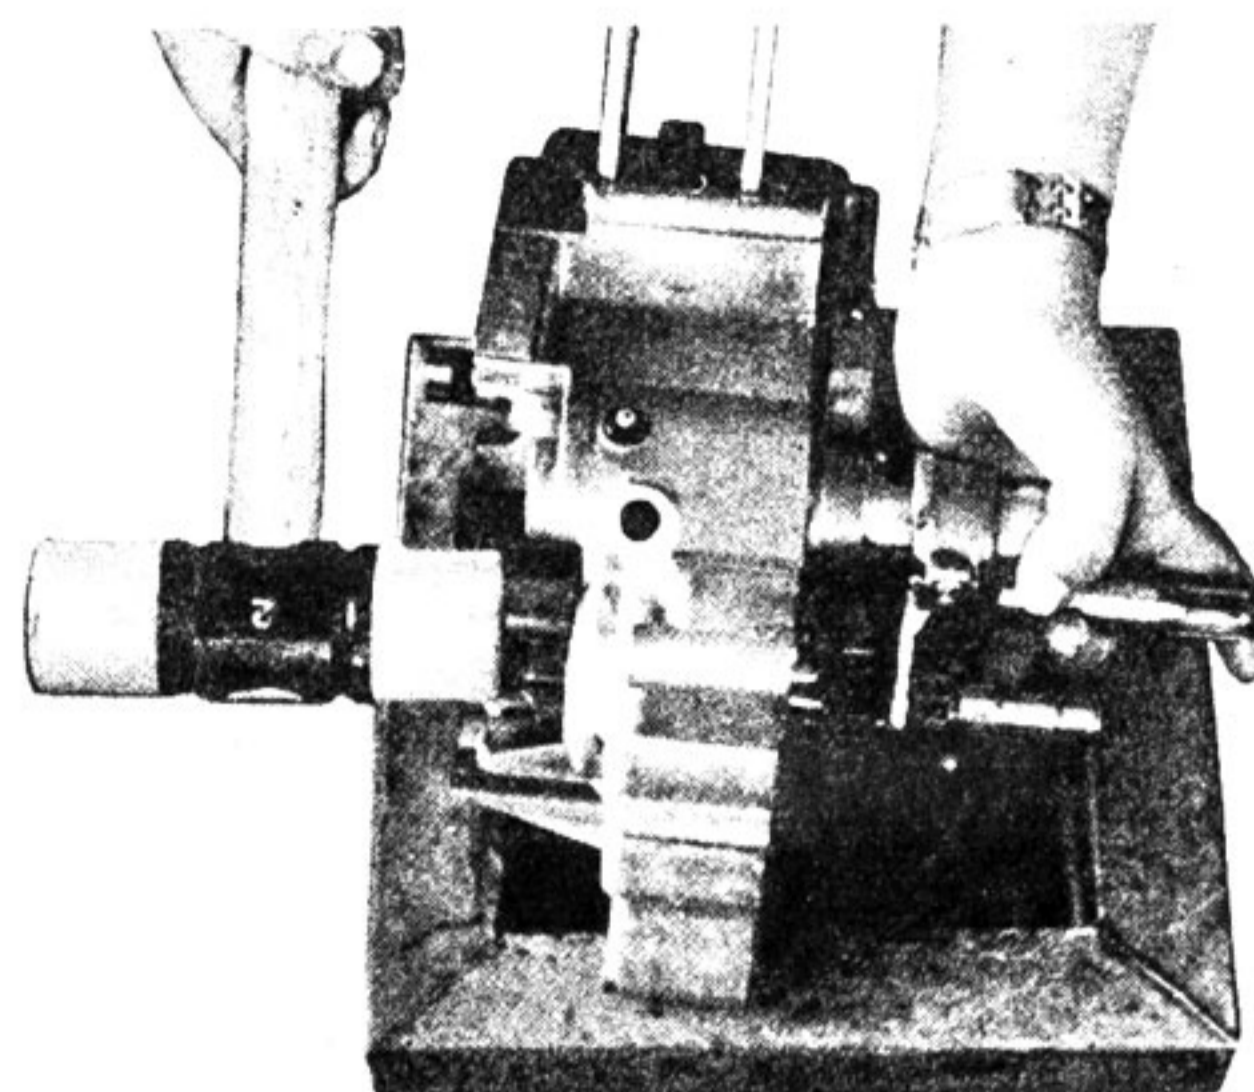

Fig. 4-16-8
(3) Remove the transmission and shifter as a unit. (Fig. 4-16-8)